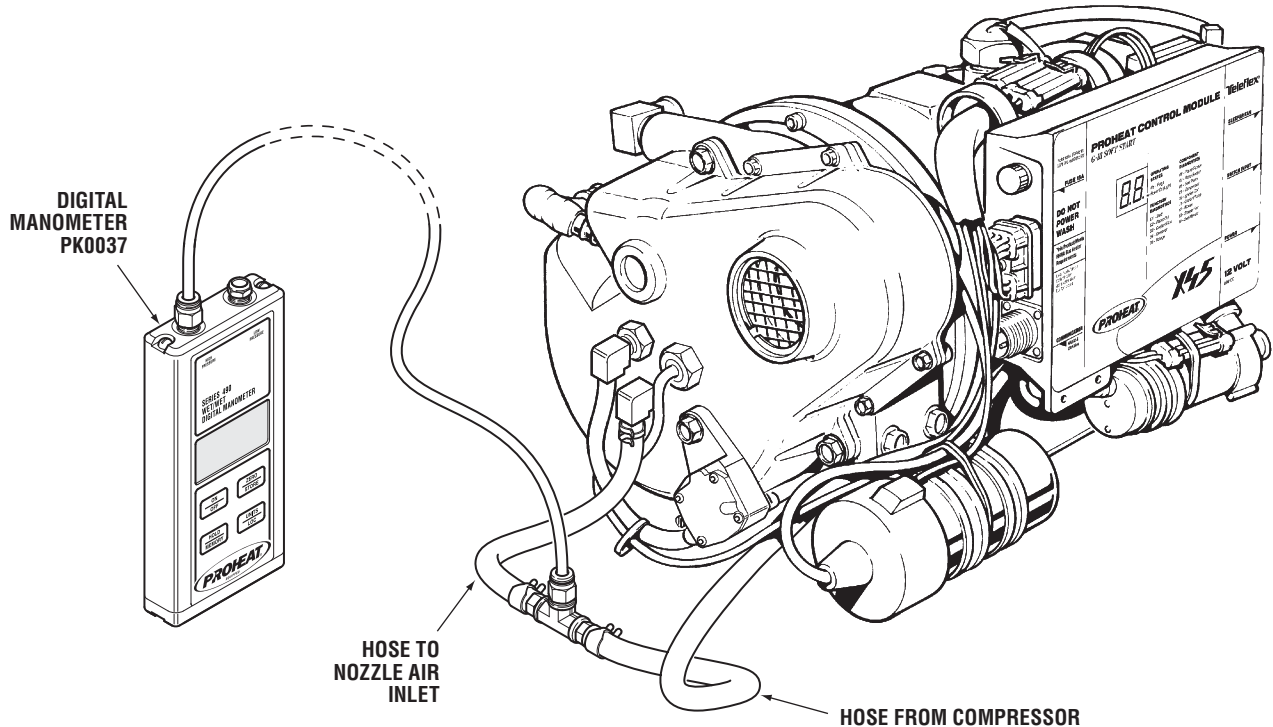

Figure 5-6
- c) Install PK0037 Digital Manometer (or a calibrated PK0060 Analog Air pressure gauge) in-line as shown in Figure 5-6.